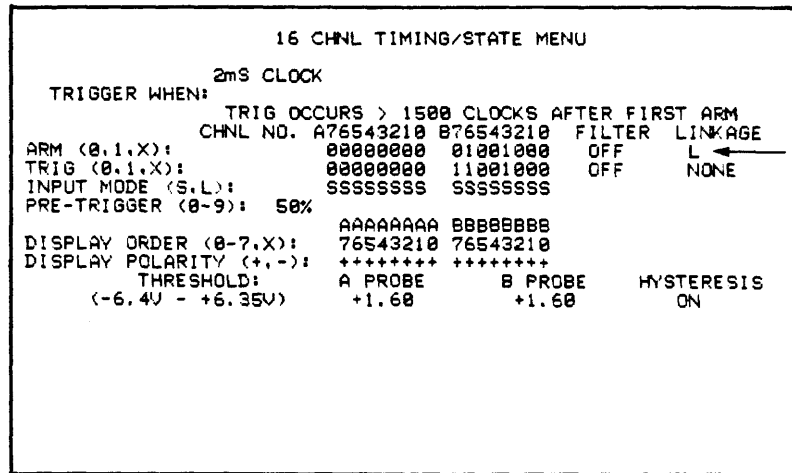

Figure 6-51. Linking the **ARM** word of the timing analyzer to the state analyzer.
Select the 48 (32) **CHANNEL STATE/16 CHANNEL TIMING** mode (Configuration #3). Call the timing menu (**F2** key) and access the linkage field in the **ARM** word. Use the **SELECT** key to set this field to **L**. See Figure 6-51. The **ARM** word is now linked to the successful triggering of the state section.